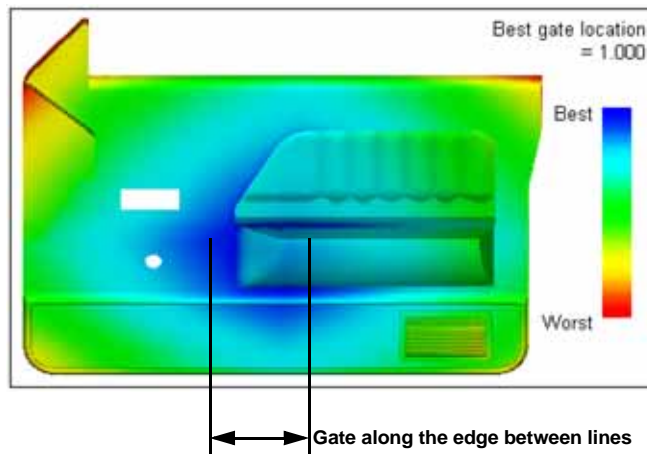

Figure 94: Door panel - best gate
2. Rotate the model to view all sides and then pick a good rotation where you can see the blue area(s) well. A good rotation is shown in Figure 94.
The best gate location is on a vertical wall on the arm rest near the center of the part. The design criteria dictate that you must use edge gates, so the best gate location from the analysis can't be used. However, with the gate location analysis, you cannot input the type of gate or gate location restrictions. The gate location analysis in this case is of very limited use. The closest thing it can show is that the gate should be located on the center of the edge somewhere below the best gate location area shown in Figure 94.
If time permits, run a Fast Fill analysis with the gate in the center of the bottom of the part, somewhere in the area highlighted in Figure 94. Review the problems with this gate location. How would you change the gate location?